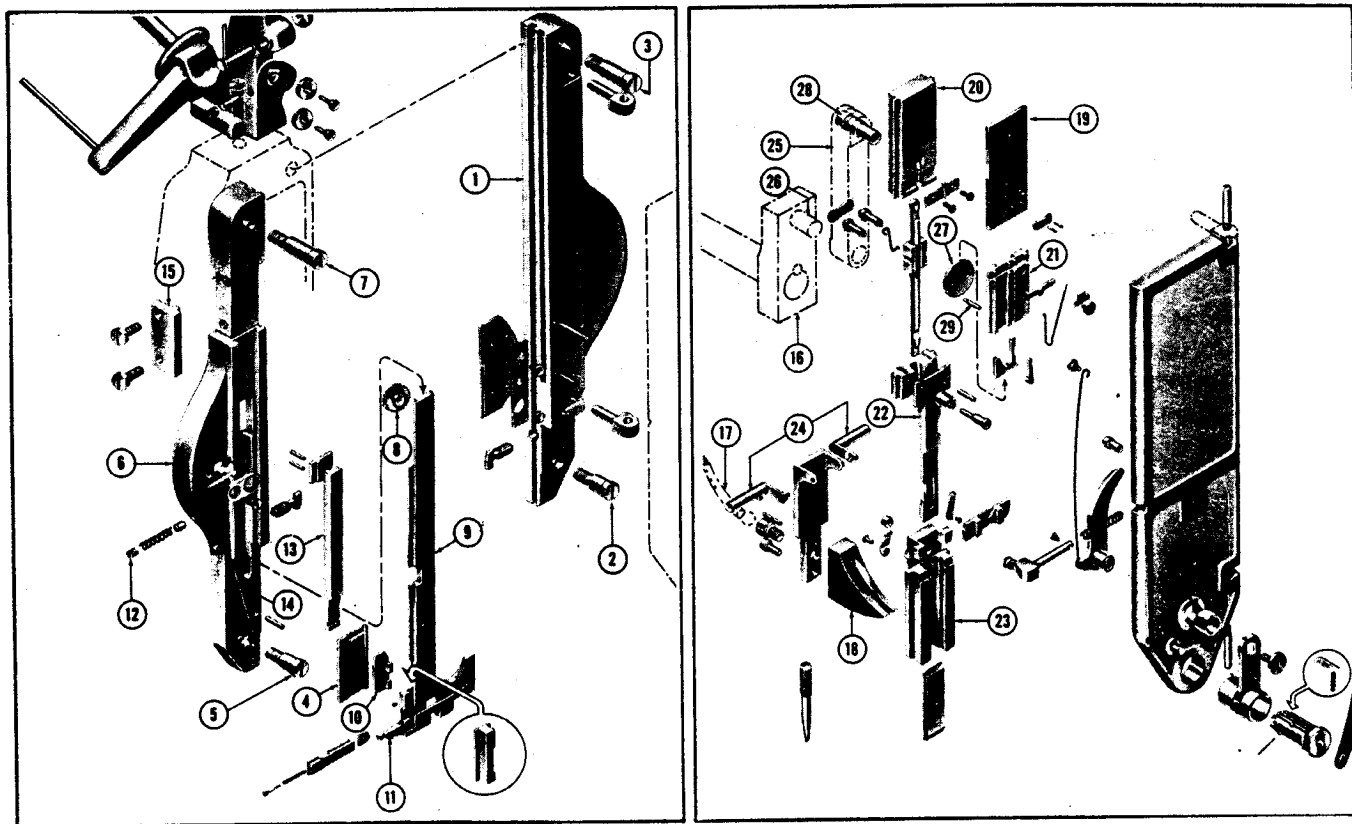

Figure 16—Stitcher Head Disassembled
2. HOW TO DISASSEMBLE AND REASSEMBLE STITCHER HEAD (See Fig. 16.)
b. REASSEMBLING HEAD (See Fig. 16.)
6—Assemble the bender bar (23), driver bar (22), feed grip plate (27), and upper driving bar (20) assemblies as indicated in Fig. 16.